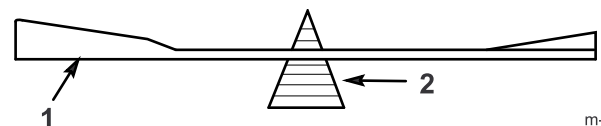

Figure 43
2. Check the balance of each blade by putting it on a blade balancer (Figure 43).